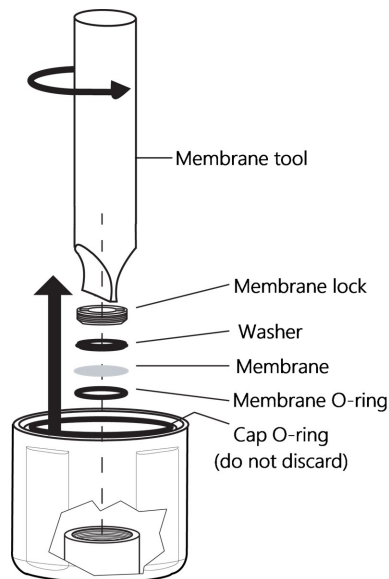

Figure 8-1. Remove membrane and membrane O-ring
3. Using the membrane tool, unscrew the membrane lock that is in the lower body; see Figure 8-1 (p. 10).